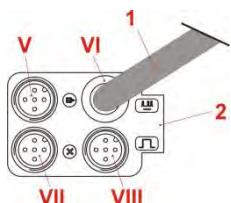
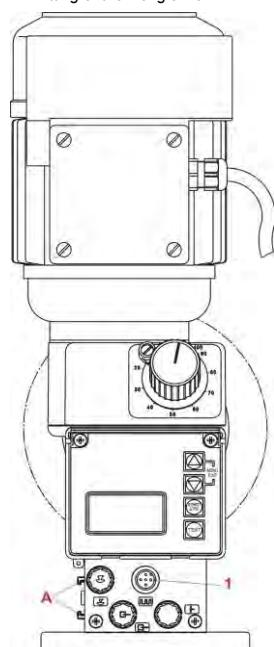

Fig. 8.1 Fitting of the Dongle-Box 1
Fig. 8.2 Fitting of the Dongle-Box 2
- ❖ Fit the dongle box (Fig. 8.1) to the rail of the EMP pump provided for this purpose (Fig. 8.2, Pos. A):
- ❖ Slide the dongle box (Fig. 8.1) onto the rail on the left side of the EMP pump (Fig. 8.2, Pos. A), until it snaps into place.
- ❖ Connect the connection cable (Fig. 8.1, Pos. 3 and 8.3, Pos. 2) to the input for pulse / standard signal (Fig. 8.2, Pos. 1).
If, before upgrading with a dongle box, a plug is connected to the input for pulse / standard signal (see Fig. 8.2, Pos. 1), then this plug can be connected after the upgrade to plug VIII (see Fig. 8.1, Pos. VIII) of the dongle box.